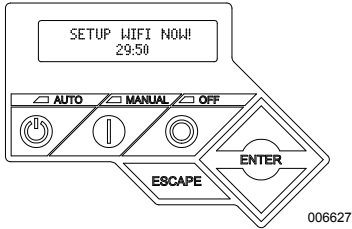

Figure 3-21. Wi-Fi Setup Screen
1. See Figure 3-21. The controller display will change to **SETUP WIFI NOW!** along with a timer. You have 30 minutes to connect the Wi-Fi.